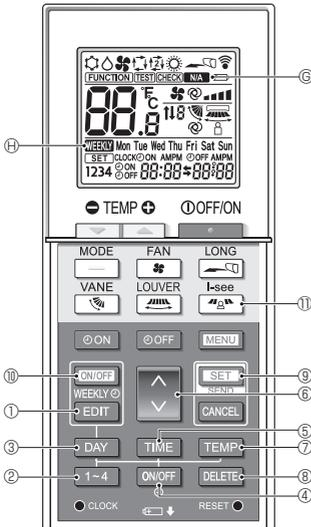

Fig. 4-3
<Switching to the editing mode> (Fig. 4-3, Fig. 4-4)
Press the **[1-4]** button ②. (Fig. 4-3, Fig. 4-4)
- Each time the **[1-4]** button ② is pressed, the pattern number ④ changes in the following order: 1 → 2 → 3 → 4.
Press the **[DAY]** button ③. (Fig. 4-3, Fig. 4-4)
- Each time the **[DAY]** button ③ is pressed, the day of the week ⑤ changes in the following order: Mon → Tue → Wed → Thu → Fri → Sat → Sun → All days.
1. Press the **[ON/OFF]** button ④. (Fig. 4-3, Fig. 4-5 ⑩)
- Each time the **[ON/OFF]** button ④ is pressed, the setting switches between **⊙ON** and **⊙OFF**.
2. Press the **[TIME]** button ⑤. (Fig. 4-3, Fig. 4-6)
- Press the **[↓]** button ⑥ to set the operation time.
3. Press the **[TEMP]** button ⑦. (Fig. 4-3, Fig. 4-7, Fig. 4-8)
- Press the **[↓]** button ⑥ to set the temperature.
- When the AUTO (dual set point) mode is enabled, press the **[TEMP]** button ⑦ to switch between the upper limit ⑥ and the lower limit ⑦.
<Deleting the settings> (Fig. 4-3)
<Transmitting the settings> (Fig. 4-3)
<Enabling the weekly timer> (Fig. 4-3)
4.7. i-See sensor (Fig. 4-3)